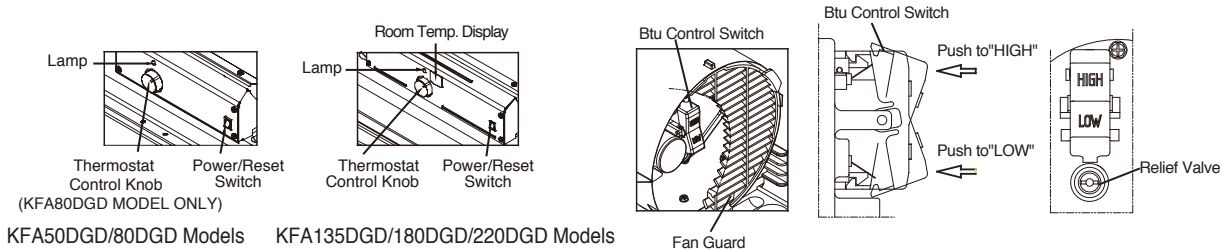

Figure 8. Controls for All Models
- 4) Position the Handles on top of fuel tank flange. Insert screws through handles, fuel tank flange and wheel support frames as shown in Figure 8 and attach nut finger tight after each screw is inserted.
- 5. Push "BTU control Switch" to desired level "High or LOW" (See Figure 8.) (KFA135/180/220DGD Models Only)